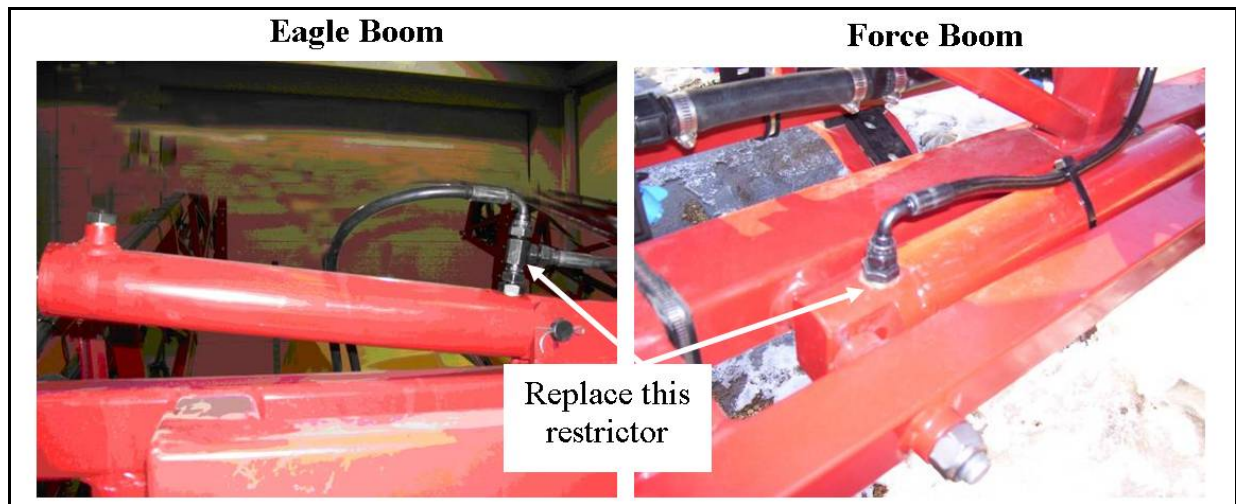

Figure 26: Restrictor to be replaced on the tilt cylinders
4. Remove the Hardi hoses from the tilt cylinders and replace the restricted BSPP fittings from the butt ends of the cylinders with the straight through fitting HD04 (**Figure 26**).